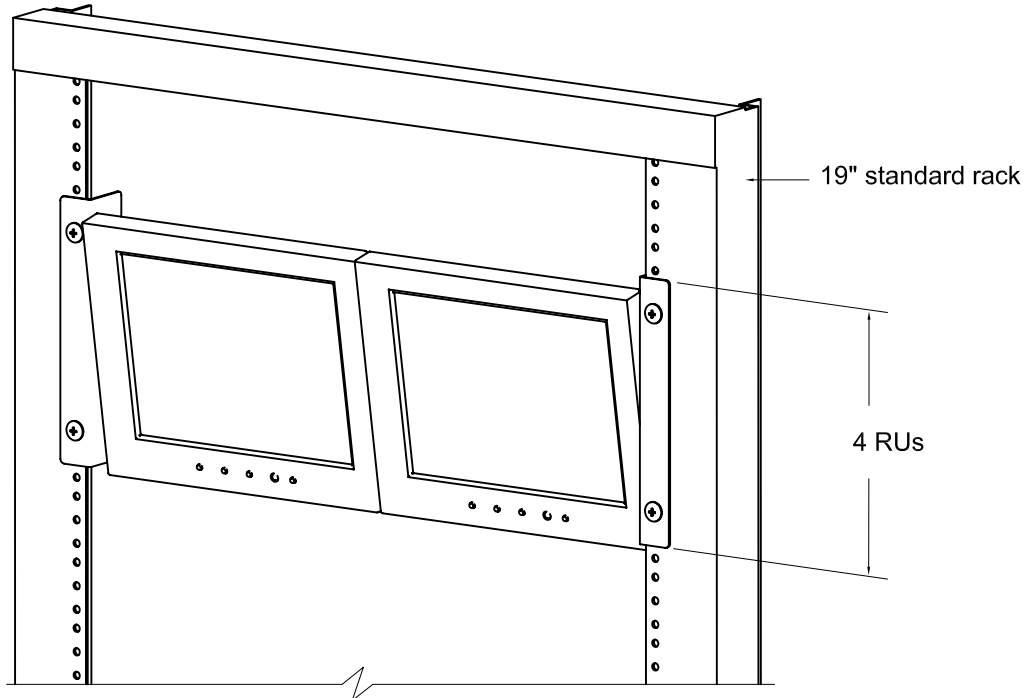

FIG. 9
8. Mount whole assembly onto 19" standard rack, (refer to rack mounting instruction provided by selected rack vendor). See FIG. 9.